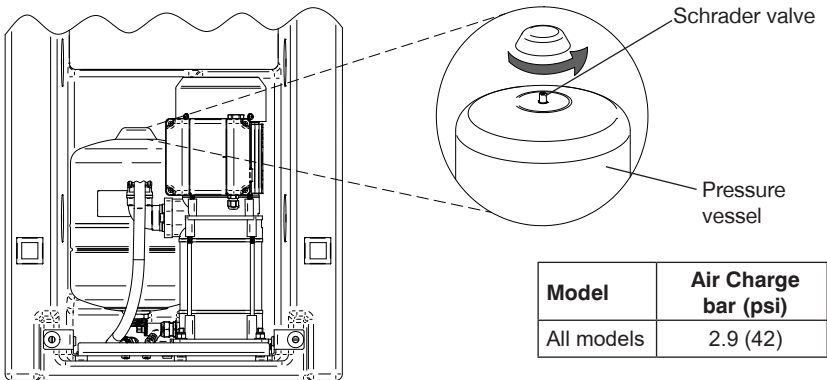

Fig. 17
- Check air charge at Schrader valve (Fig. 17) using a tyre pressure gauge.
- Replenish air charge by injecting air into the vessel via the Schrader valve using a car or bicycle pump (Fig. 17).